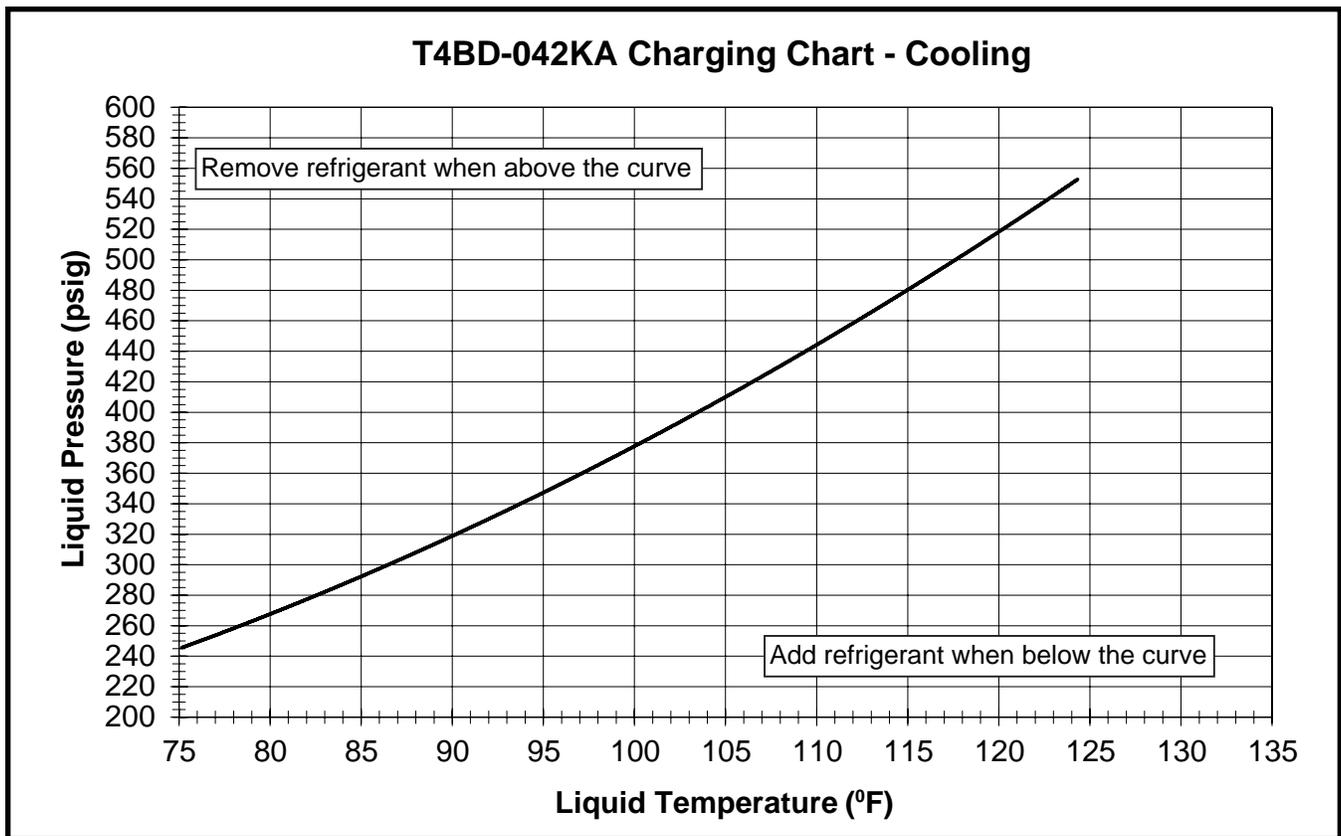
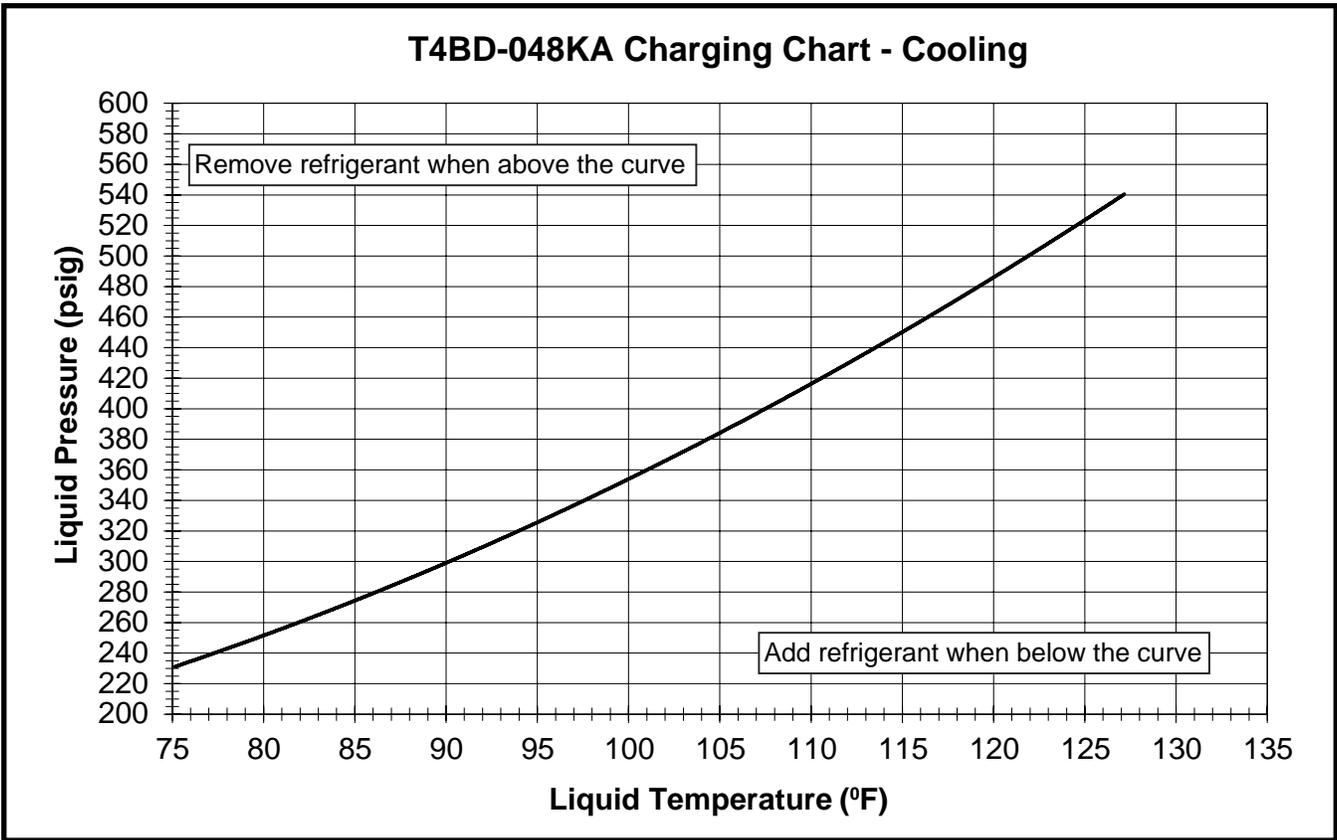
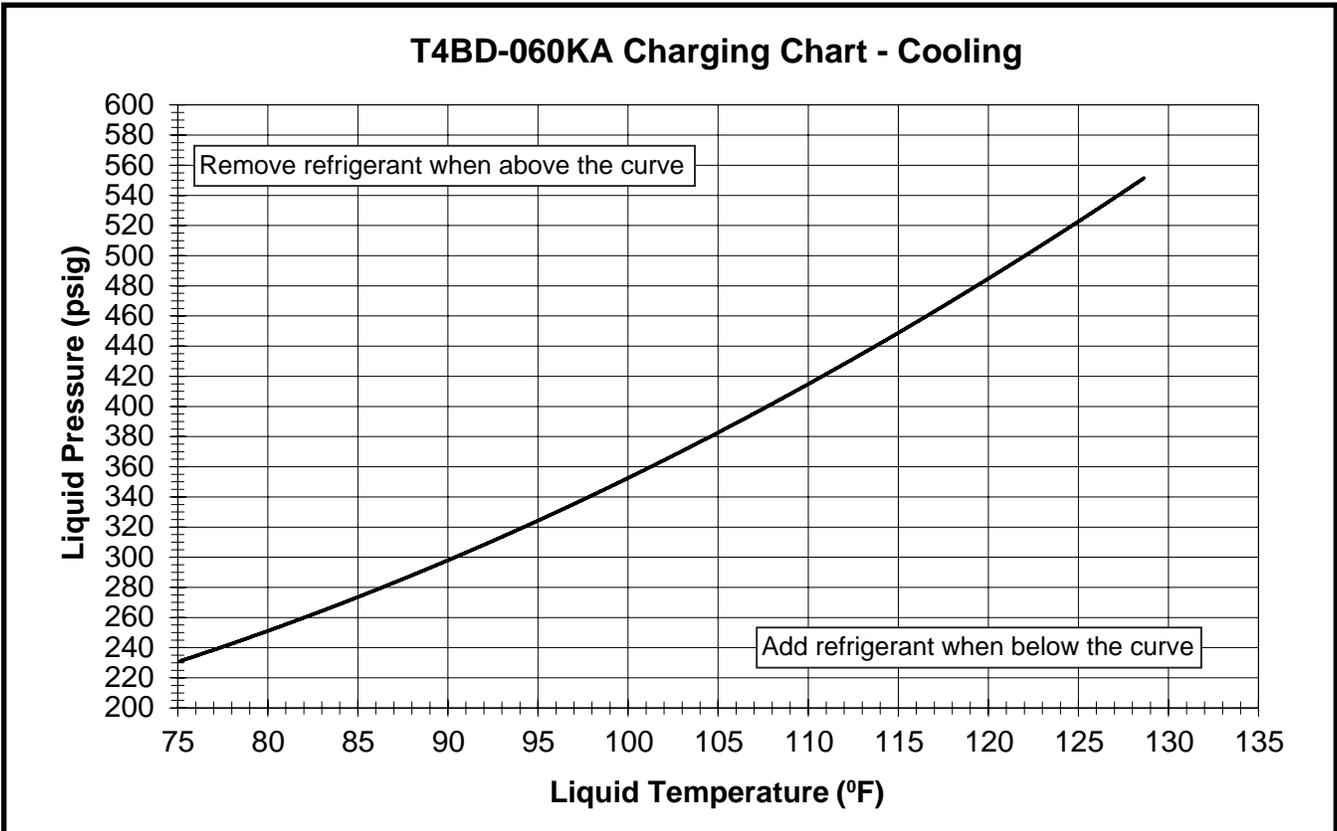

Figure 6. Charging Chart for 3.5 Ton Units (TXV Matches)
Figure 7. Charging Chart for 4 Ton Units (TXV Matches)
Figure 8. Charging Chart for 5 Ton Units (TXV Matches)
- Cooling mode charging charts are applicable only to matched assemblies of this equipment and listed airflows for the indoor coil. Refer to the Quick Reference Data sheet for additional charging information. Outdoor units with non-AHRI listed indoor coils are not recommended and deviations from rated airflows or non-listed combinations may require modification to the expansion device and refrigerant charging procedures for proper and efficient system operation. Refer to Figure 6, \(page 10\), Figure 7, \(page 11\), & Figure 8, \(page 11\) and Table 5, \(page 12\), Table 6, \(page 12\), & Table 7, \(page 13\) for correct system charging.
3. Determine the required liquid refrigerant pressure from Figure 6, \(page 10\), Figure 7, \(page 11\), & Figure 8, \(page 11\).
- The charging charts below (Figure 6, Figure 7, & Figure 8) are valid for a variety of indoor, return air conditions and are most influenced by the outdoor ambient temperature, outdoor fan operation and the unit operating voltage. Before using these charts, make sure the unit is in a stable operating mode. As shown in the charts, the ideal system sub-cooling can vary over the range of operation. Reference the charts to determine the ideal amount of sub-cooling for a given liquid pressure. Units charged to other values will not perform at the rated unit efficiency (EER) or rated Coefficient of Performance (COP) in heating mode.